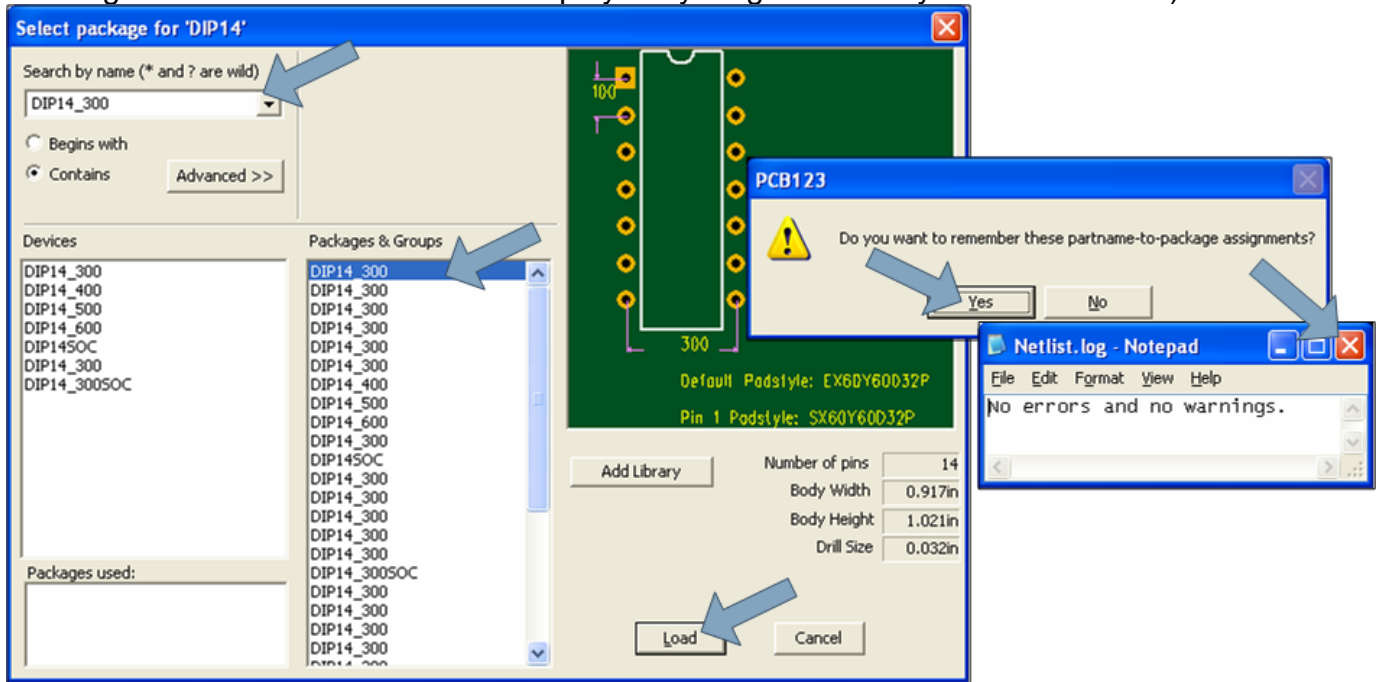

Figure 3: Select Package
4. **(Note:** you will only see this window if the software doesn't already have the existing part.) The first thing you should see is the library parts browser popup (*Figure 3*) asking you to select a package for **DIP14**.